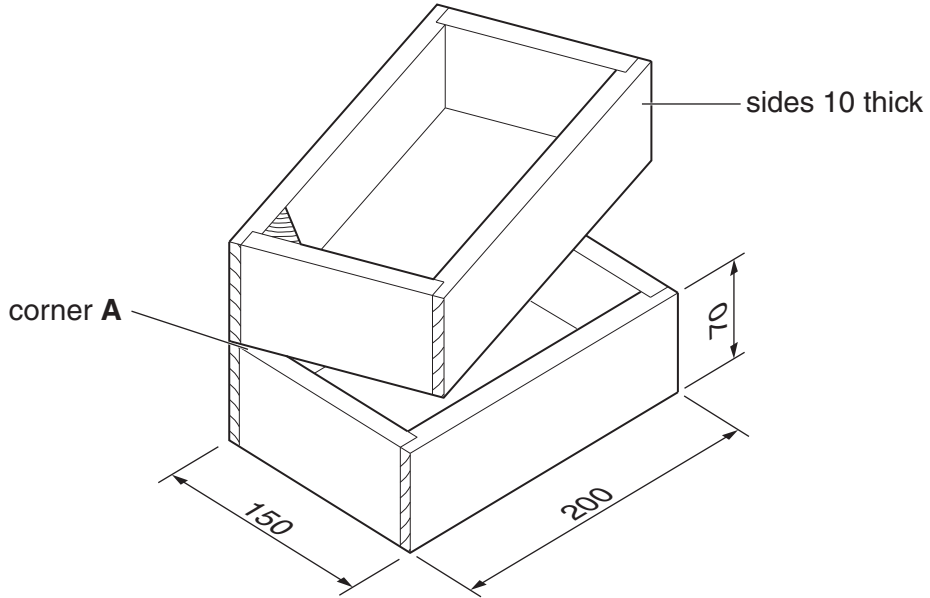

Fig. 6
- 4 Fig. 6 shows an incomplete design for a storage unit for jewellery. The storage unit has top and bottom trays that pivot at corner A. The storage unit is made from a quality hardwood in a school workshop.